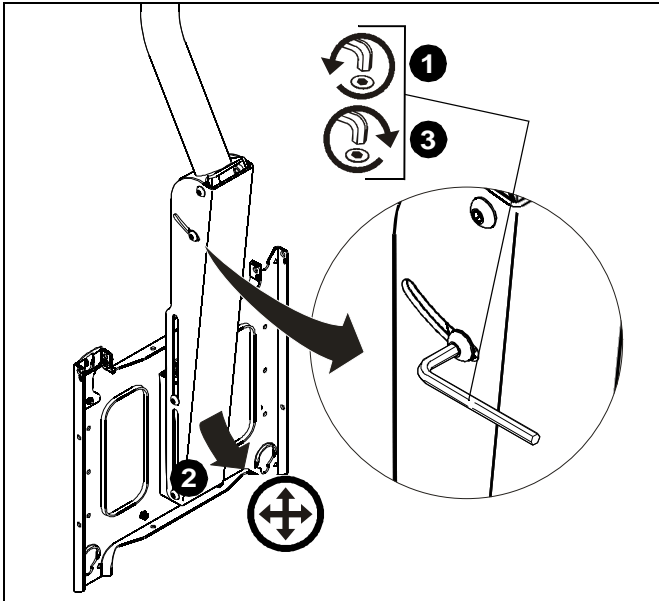

Figure 7
(See Figure 7)
2. Adjust to desired tilt position. (See Figure 7)